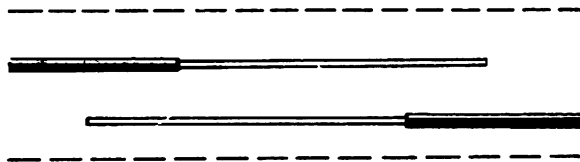

Figure 1.
1. Splice firing wire (figure 1).